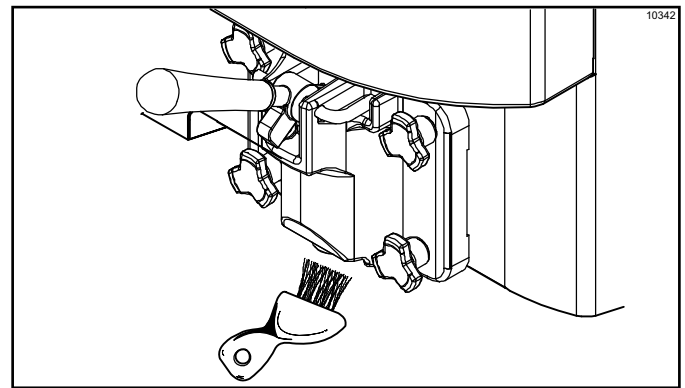

Figure 6-45
**Note:** To ensure sanitary conditions are maintained, brush each item for 60 seconds, repeatedly dipping the brush in cleaning solution. (See Figure 6-45.)